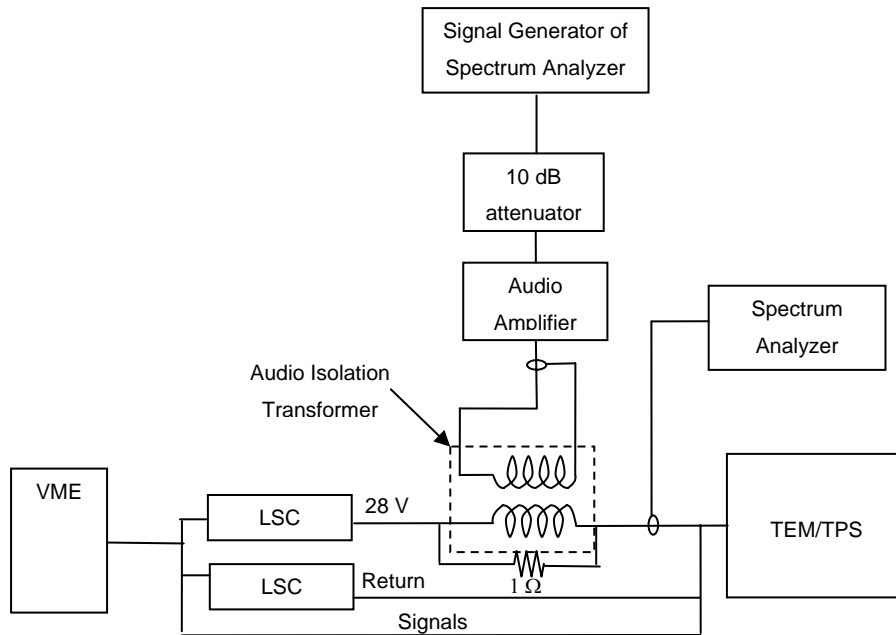

Figure 4-7: CS102 Test Set-Up for 10 kHz to 150 kHz
- 1) Set up the EMI test equipment and the TEM/TPS per Figure 4-7: CS102 Test Set-Up for 10 kHz to 150 kHz.